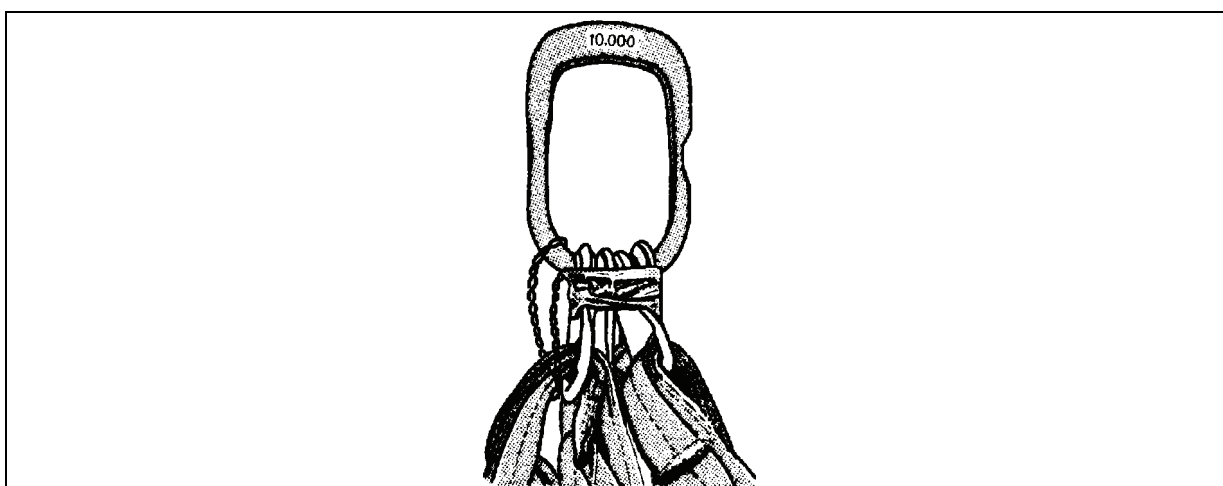

Figure 7-8. Taped Hooks
- After connecting all four hooks to the apex fitting, tape or tie the four hooks together to prevent them from coming unhooked when the apex is laid down (Figure 7-8).